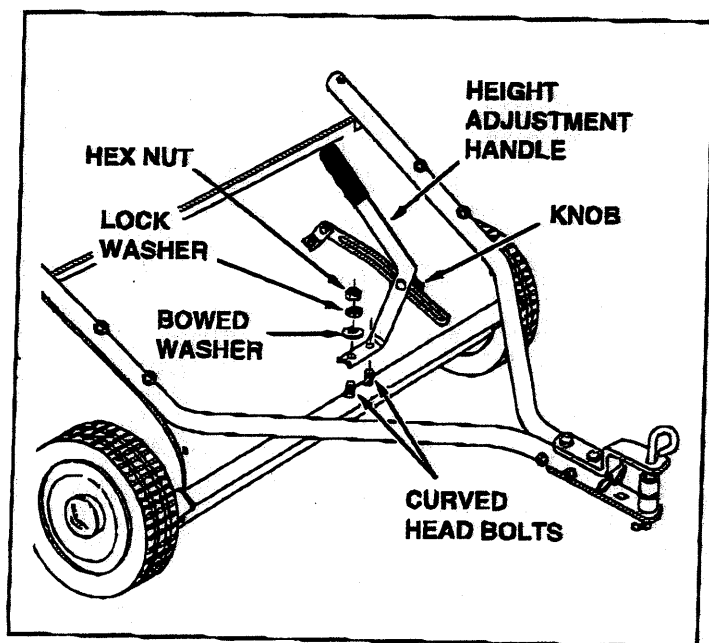

FIGURE 1
1. Remove the nuts, lock washers and bowed washers from the two curved head bolts, leaving the bolts in the tube at the front of the sweeper housing. See figure 1.
2. Loosen the knob fastening the height adjustment handle to the height adjustment strap. See figure 1.
3. Place the base of the height adjustment handle onto the two curved head bolts and secure it with the bowed washers, lock washers and hex nuts that you removed. See figure 1.